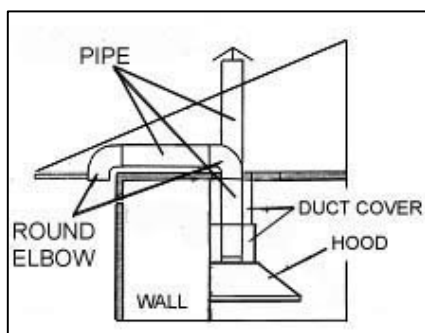

Figure 1
- Decide the location of venting pipe from the hood to the outside. Refer to Figure 1.